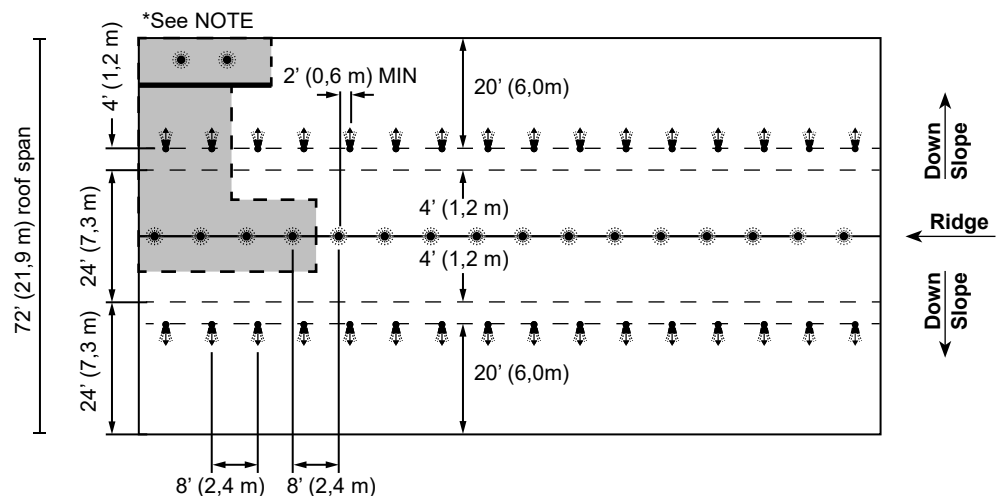

Figure 12B: Dry System Design for 72 ft (21,9 m) Roof Span with Obstruction
2. Figure 12B - Calculate the 6 most demanding sprinklers: